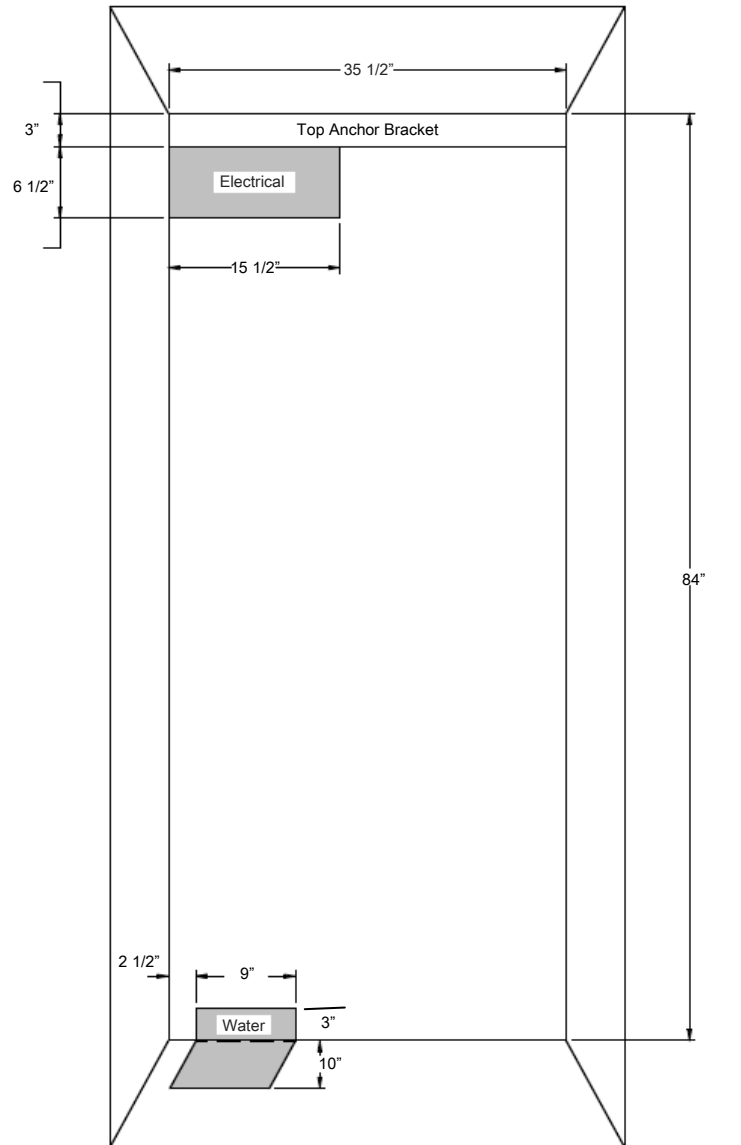

Fig 1
**Location:** The electrical outlet should be located in the area marked "Electrical" in Fig. 1.
**Location:** The water line should be located in the area marked "Water" in Fig 1. This area also extends 10" forward on the floor.